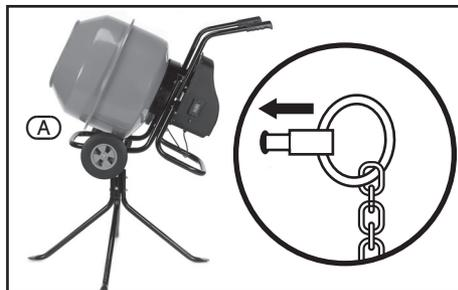

FIG.13
9.1 WORKING POSITIONS – FIGS. 13 – 14